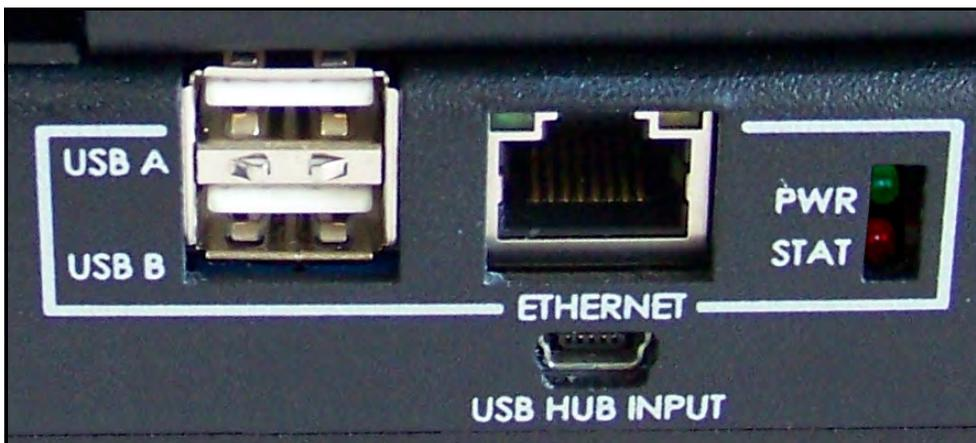

FIGURE B-2 Ethernet Status Lights and Ethernet PWR Light
- Step 3** Check that the CBL159 is connected from the Model 831 USB client port (marked USB on the Model 831, *Figure B-1*) to the 831-INT-ET SBC USB port marked “USB B” (See *FIGURE B-2* and *Figure B-2*).
- Step 4** Verify that the CAT5e or CAT6 Ethernet cable is attached to the network router and also to the 831-INT-ET Ethernet connector. (See *Figure B-2*.) The green LED on the Ethernet connector should be on; the yellow LED will blink with network connectivity.
- Step 7** If the 831-INT-ET and Model 831 power up, but the SBC green PWR light (*FIGURE B-2**Figure B-2*) on the 831-INT-ET remains off: